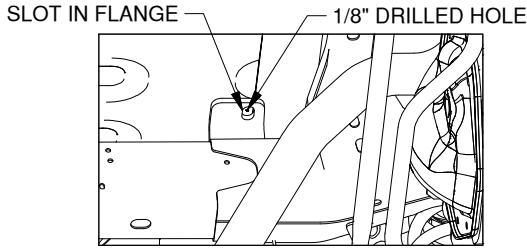

Figure C1: View looking up under the truck at the inside of the driver side frame.
1. **Check the hole locations.** Make sure the rear side plates are flat against the frame and that the two flanges on top are flat against the bottom of the bed. The 1/8" pilot holes need to be aligned front to back in the center of the slots in the two rear side plate flanges, as shown in Figure C1. If the 1/8" drill holes can't be centered within the slots, re-drill the 1/8" holes until the side plates and the drilled holes can be aligned.